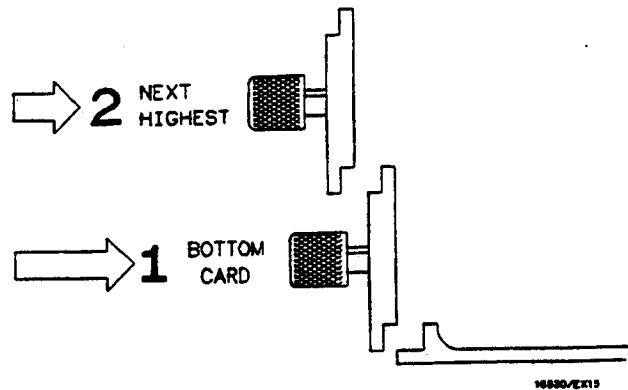

Figure 6-13. Endplate Overlap
- k. Repeat for all cards and filler panels in a bottom to top order. See figure 6-13.